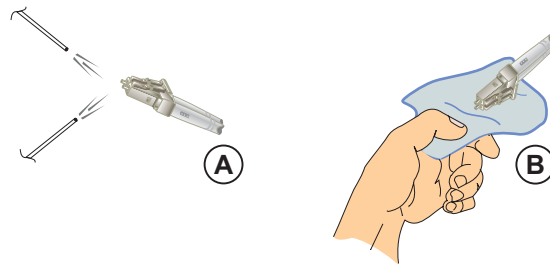

Figure 3-6 Clean Fiber-Optic Components
2. Disconnect the fiber-optic cable from the transceiver. Use compressed air to blow any contaminants from the connector as described below (see A and B of Figure 3-6).
3. Gently wipe the end-face (A) and other surfaces of the connector with an alcohol pad (B) of Figure 3-6. Ensure the pad makes full contact with the surface to be cleaned. Wait approximately five seconds for cleaned surfaces to dry.